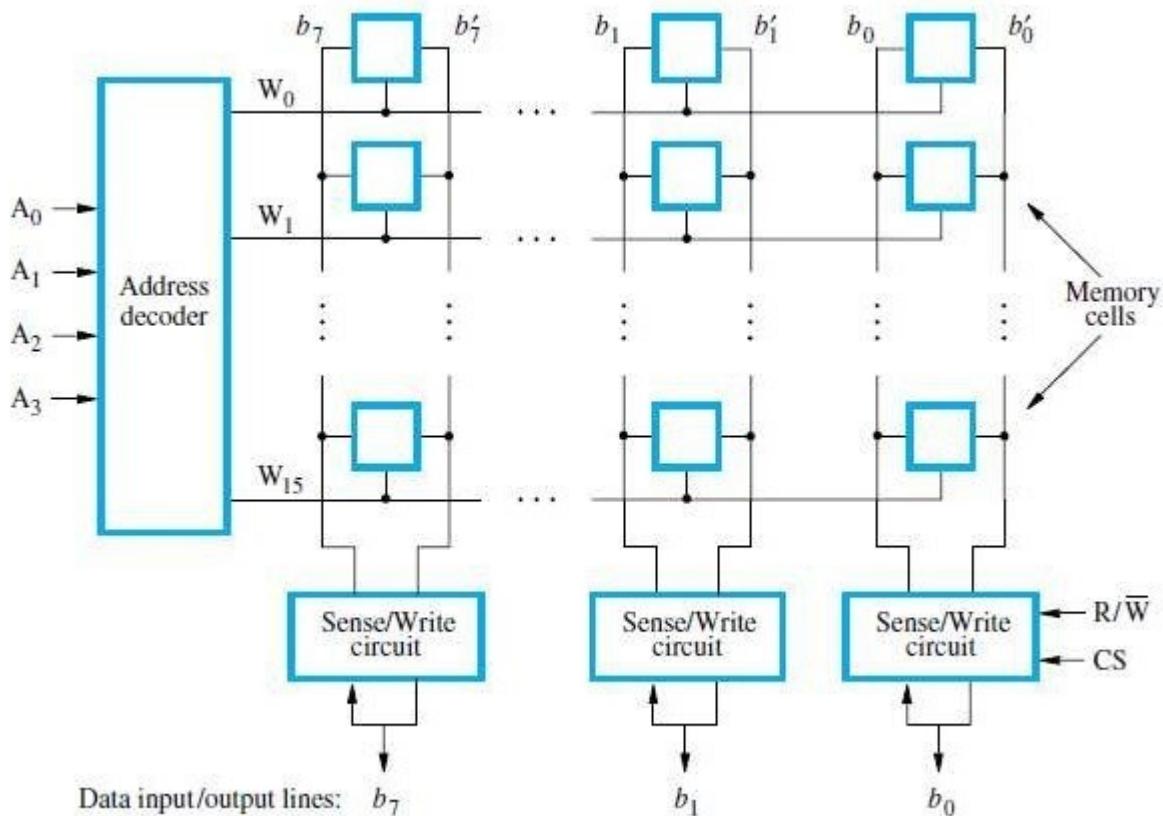

Figure 8.2 Organization of bit cells in a memory chip.
- Memory-cells are organized in the form of array (Figure 8.2).